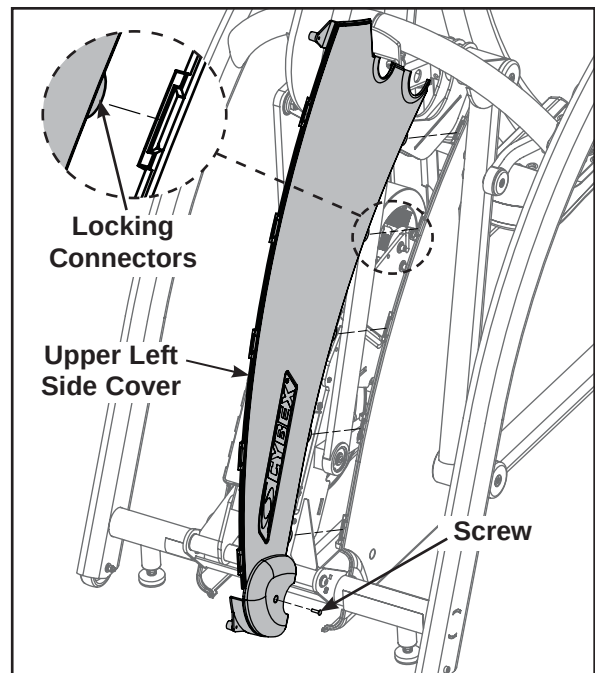

Figure 4
A. Using a Phillips screwdriver, remove the screw securing the upper side cover. See Figure 4.